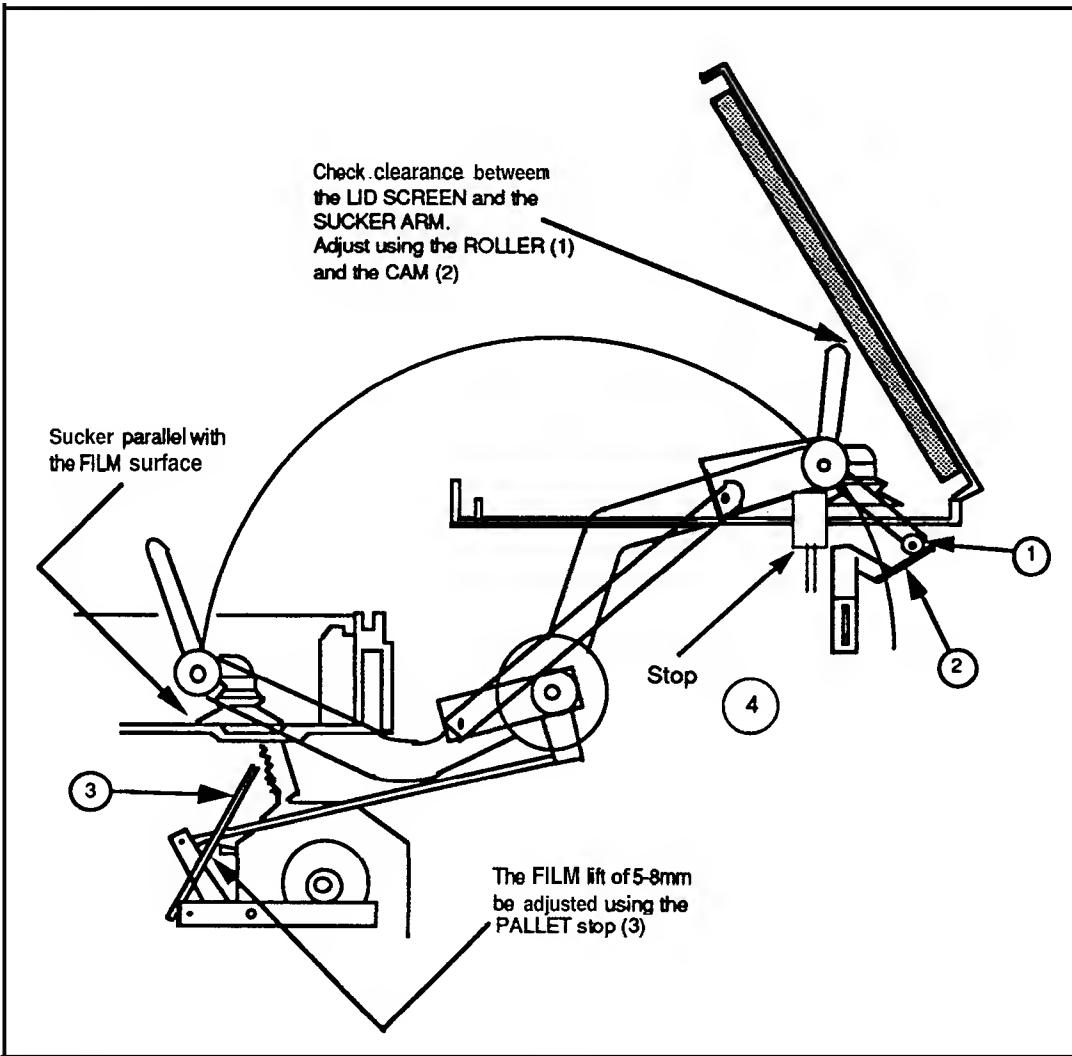

Figure 9
- 3 Turn the CAM on the tilt motor by hand until the SUCKERS are 5 to 8mm above the top of the FILM stack. The LIFTING TOOTH (3 on **Figure 9**, page SM18) should engage in the RATCHET at approximately the eighth or ninth tooth down from the top. Adjust the STOP up or down if necessary to achieve this.
- 3 Slacken off the STOP (4 in **fig 9** page SM 18). Run some cycles and adjust the CAM (2 in **fig 9**) to obtain correct entry of the FILM into the CASSETTE. If necessary also adjust the length of either of the PUSH RODS. The FILM should be "tucked into" the HINGE of the CASSETTE without catching the BASE of the CASSETTE or the SCREEN. The FILM should not stub against the HINGE and the SUCKER BAR must not catch the SCREEN. When the FILM is being entered correctly into the CASSETTE, set the STOP so the SUCKER BAR presses against it with a force of 0.5 to 1 kg.